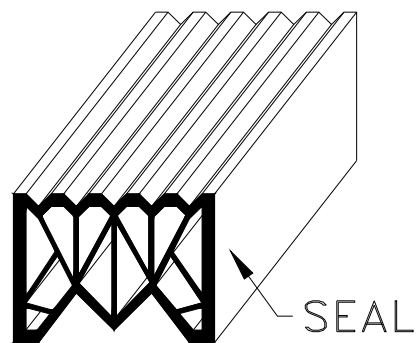

Figure 5
- STEP 7.** Select the seal (see Figure 5).